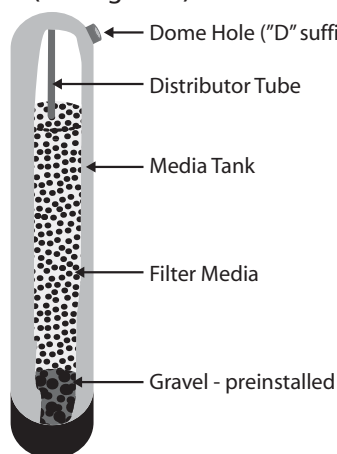

Figure 3 - Media Tank Cutaway
- Media was shipped separately. Carefully unscrew the control valve. Be sure to "plug" the top of the distributor tube using tape or some other means. Do not allow filter media to enter inside of distributor tube (See Figure 3).